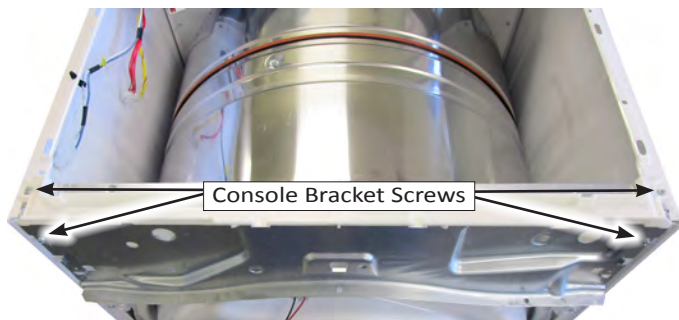

Figure 1 - Remove console bracket screws.
4. Remove two (2) 1/4" hex-head screws from the top of the console bracket and two (2) from the front of the bracket. Remove console bracket and set aside for reinstallation (see Figure 1).